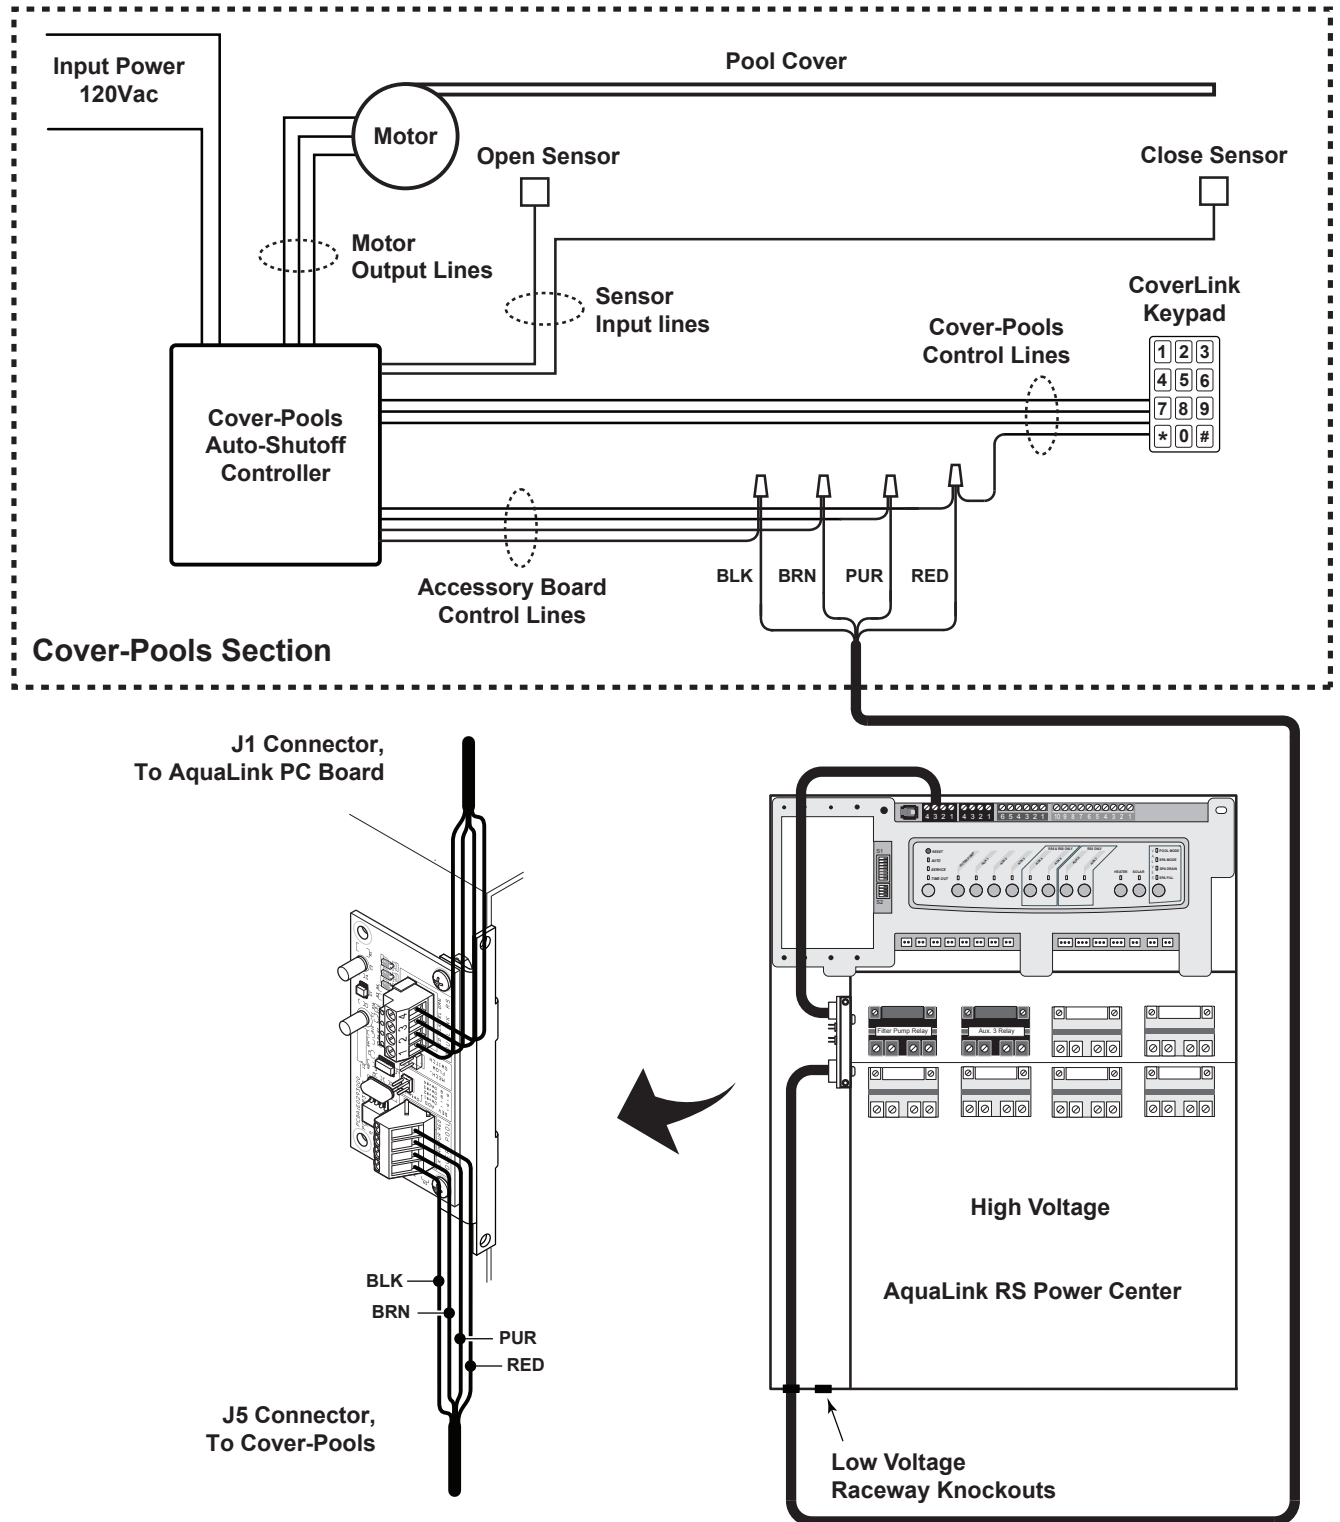

Figure 4. Wiring the Cover-Pools/AquaLink RS Interface Board
- Connect the RS485 communication cable to the red 4-pin terminal bar on AquaLink RS PC board. See Figure 4.
A 4-wire cable must be routed from the power center to the Cover-Pools controller through the knockouts of the low voltage raceway at the power center can bottom. See Figure 4.
- Cut and strip the insulation from the four (4) wires of the accessory board control wiring and the keypad control wiring. See Figure 4.
- Using the included four (4) wire nuts, secure each wire of the cable from Cover-Pools/AquaLink RS interface board to the accessory board control wiring and the keypad control wiring. Make sure the colors of the wires match to each other when securing the wire nuts.